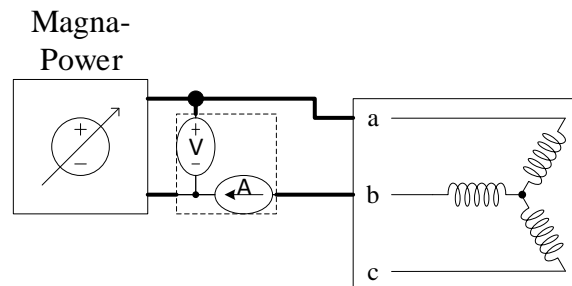

Figure 5: Configuration for dc test.
**DC Test** : Connect as in Figure 5. You may use any of the three Flukes, configured to measure dc voltage and current. Increase the Magna-Power current to the rating of the motor. Record the voltage and current, which corresponds to the total resistance measured line-to-line. The per-phase stator resistance will be *half* the measured resistance. Turn off the supply.